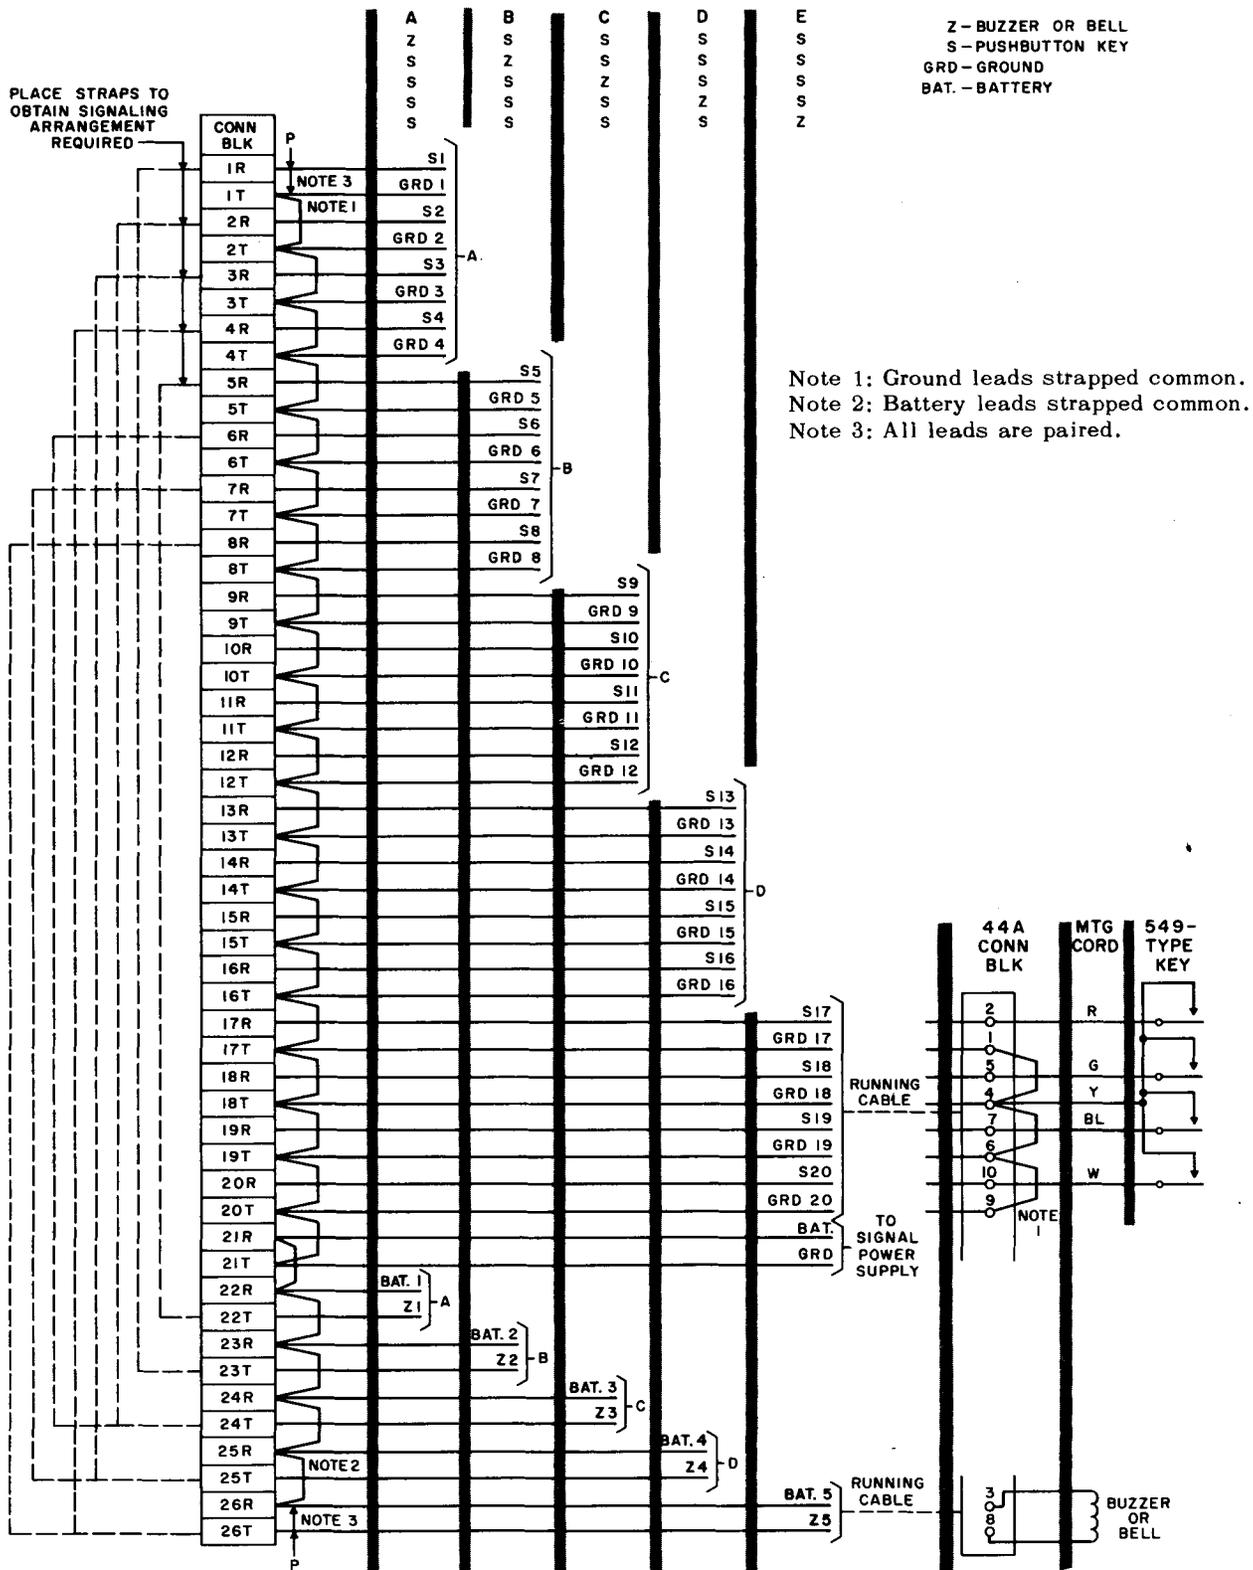

Fig. 2 - Large Pushbutton and Buzzer System
1.02 It is reissued to modify Fig. 2.
3.01 A simplified method of connecting buzzers, bells, and pushbutton keys is to be used on all systems. This method ensures the pairing of all key and buzzer leads throughout the system (Fig. 2 and 3).